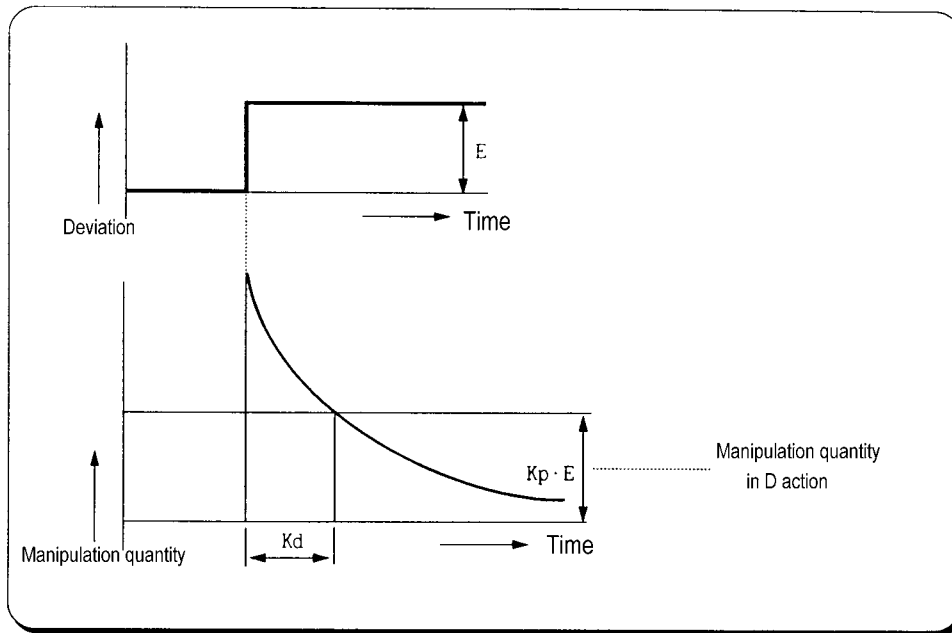

Fig. 7.6 Derivative action with a constant deviation
- ① When a deviation occurs due to alteration of SV or external disturbances, D action restrains the changes of the deviation by producing MV which is proportioned with the change velocity (a velocity whose deviation changes at every constant interval) in order to eliminate the deviation.
- ② D action gives quick response to control action and has an effect to reduce swiftly the deviation by applying a large control action (in the direction that the deviation will be eliminated) at the earlier time that the deviation occurs.
- ③ D action can prevent the large changes of control object due to external conditions.
- ④ The period of time from when the deviation has occurred to when the MV of D action become the MV of P action is called derivative time and represented as T_d .
- ⑤ The D action when a constant deviation occurred is shown as Fig. 7.6